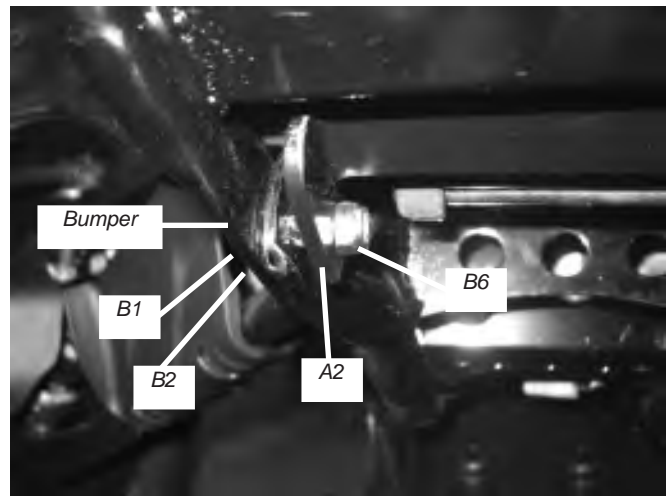

Figure 13 Lower Bumper Mounting Location
14. Install the supplied 8mm-1.25 x 30mm bolt (B1) and flat washer (B2) into the lower bumper mounting location. Make sure that the bolt passes through the hole on the lower mounting bracket (A2), figure 13. Place the supplied 8mm lock nut (B6) on the end of the 8mm bolt (B1). Do not tighten at this time.